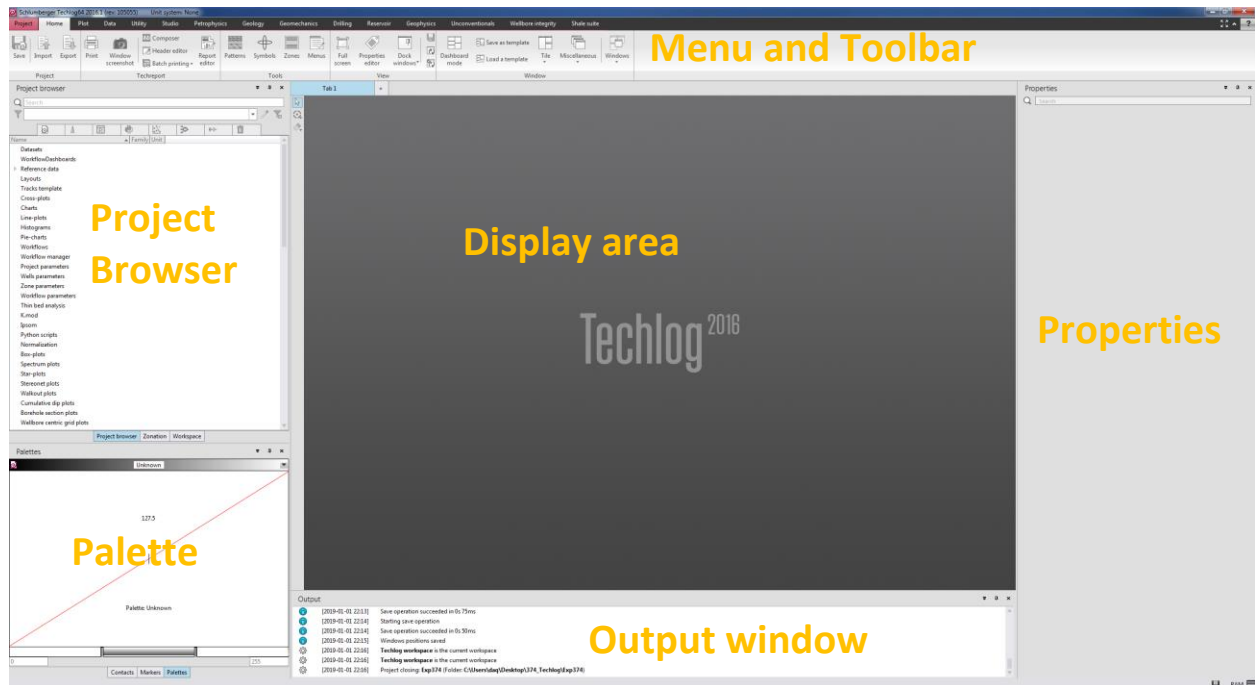

Figure 2: Main components of the Techlog window.
2. Once the program opens, familiarize yourself with the basic layout of the Techlog interface, as labelled in Figure 2.
2. Click on any of the Dataset items and the corresponding properties will be displayed in the Property panel (see Fig. 2). If the Property Panel is hidden, simply press F4.